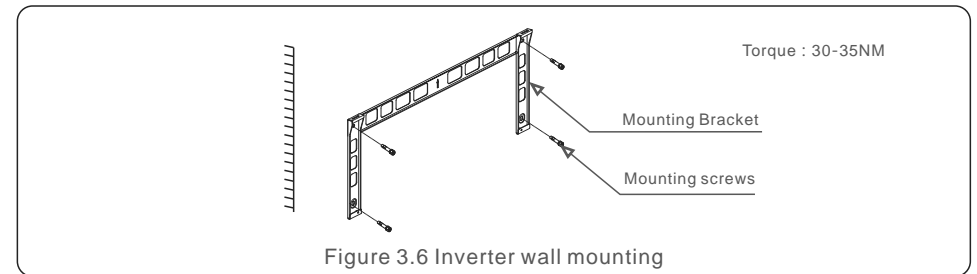
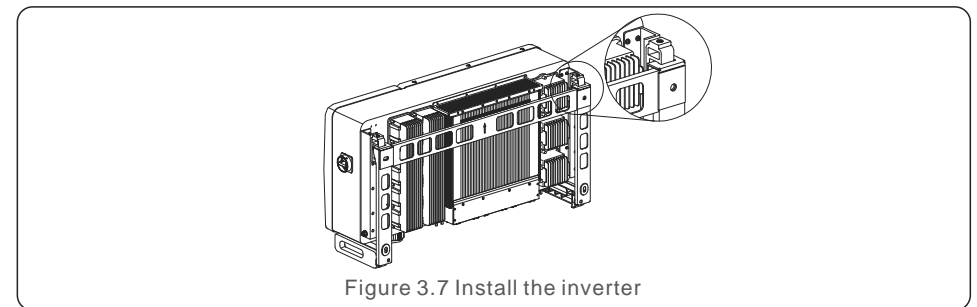

Figure 3.6 Inverter wall mounting
Figure 3.7 Install the inverter
Refer to figure 3.6 and figure 3.7 Inverter shall be mounted vertically.
1. Refer to Figure 3.6, drill holes for mounting screws based on the hole diameter of bracket using a precision drill keeping the drill perpendicular to the wall. Max depth is 90 mm.
2. Make sure the bracket is horizontal. And the mounting holes (in Figure 3.6) are marked correctly. Drill the holes into wall at your marks.